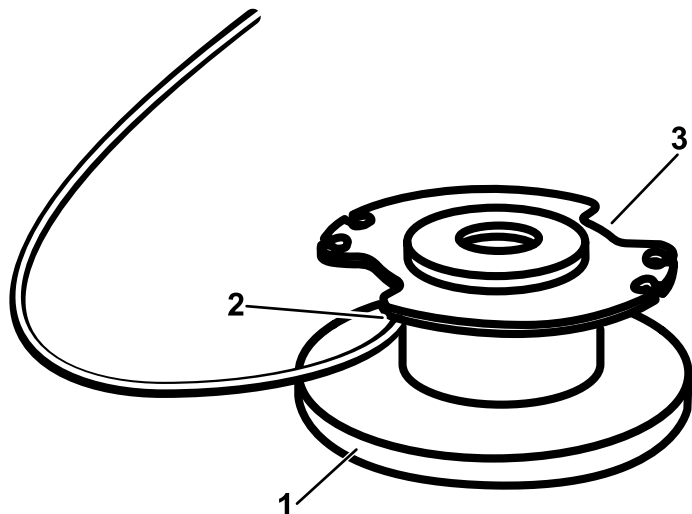

Figure 19
4. Insert the string into the anchor hole (Figure 19). Wind the string onto the spool in the direction shown by the arrows on the spool.